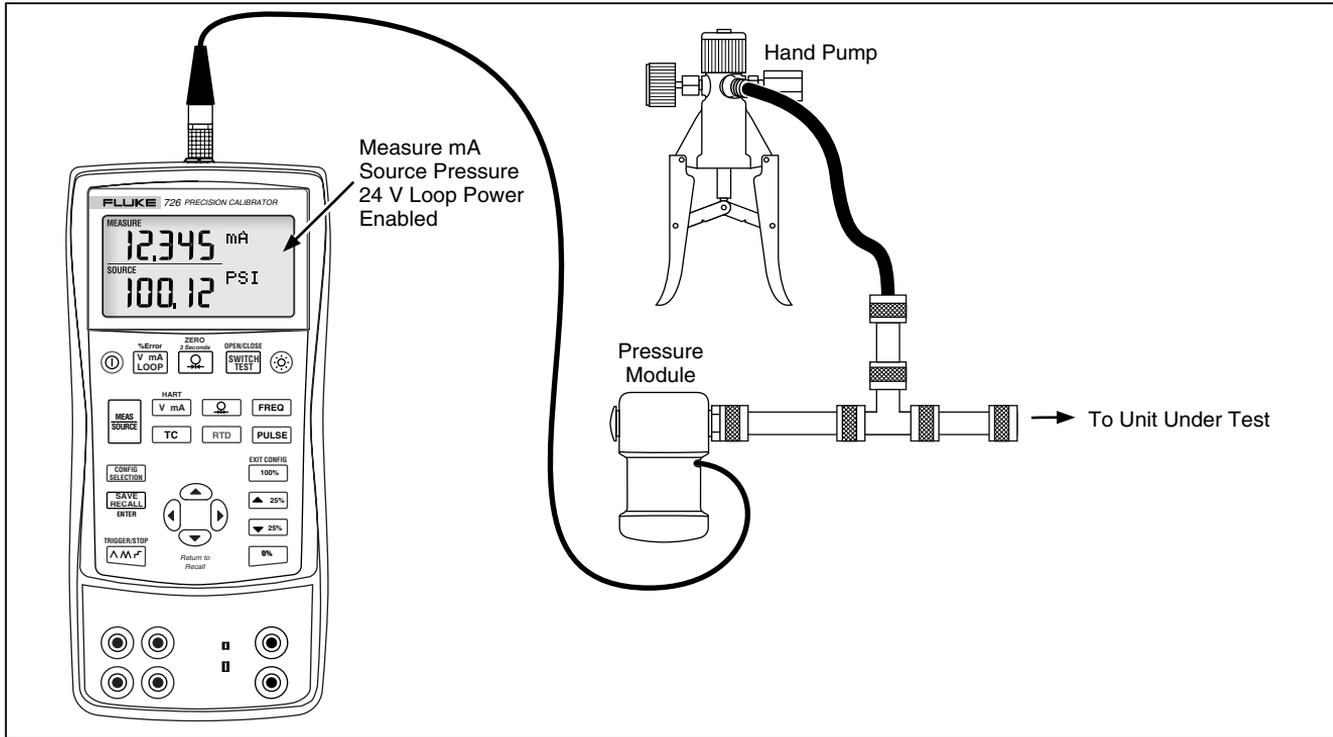

Figure 18. Connections for Sourcing Pressure
The Calibrator sources pressure by measuring pressure supplied by a pump or other sources, and displaying the pressure in the SOURCE field. Figure 18 shows how to connect a pump to a Fluke pressure module which makes it a calibrated source.
1. Connect a pressure module to the Calibrator as shown in Figure 18. The threads on the pressure modules accept standard  $\frac{1}{4}$  NPT pipe fittings. Use the supplied  $\frac{1}{4}$  NPT to  $\frac{1}{4}$  ISO adapter if necessary.